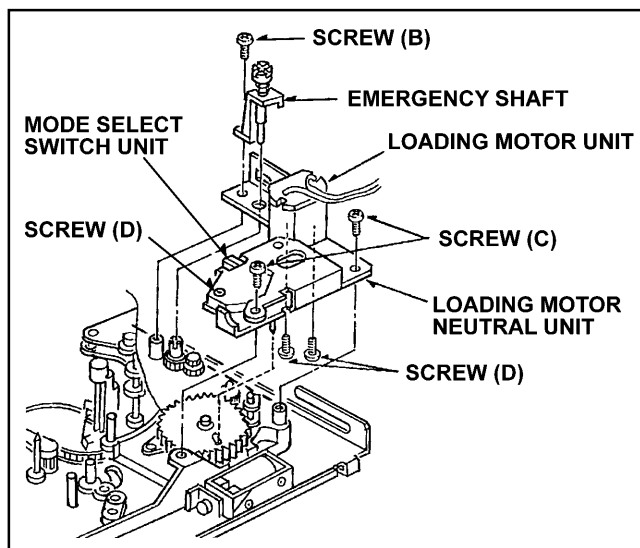

Figure 5-11
1. Disconnect the connector P612 on the Servo P.C.Board (B).
2. Remove the Pinch Solenoid Unit and Loading Motor Unit. (Refer to item 5-7 and 5-10.)
3. Remove the screw (E) and remove the Mode Select Switch Unit from Loading Motor Unit as shown in Figure 5-11.